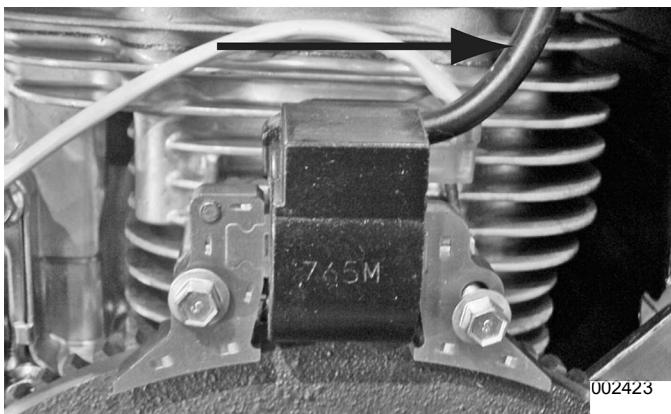

Figure 3-70. Cylinder One (Back, Short)
3. See Figure 3-70. Cylinder one is the back cylinder.